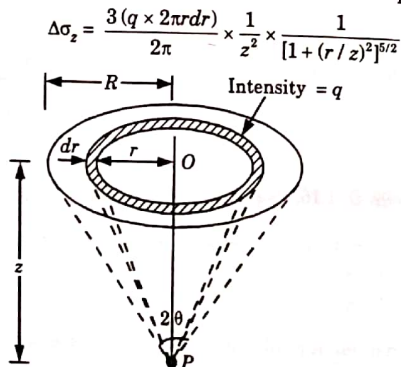

Fig. 2. Circular load.
- Let us determine the vertical stress at the point P at depth z below the centre of a uniformly loaded circular area as shown in the Fig. 2.